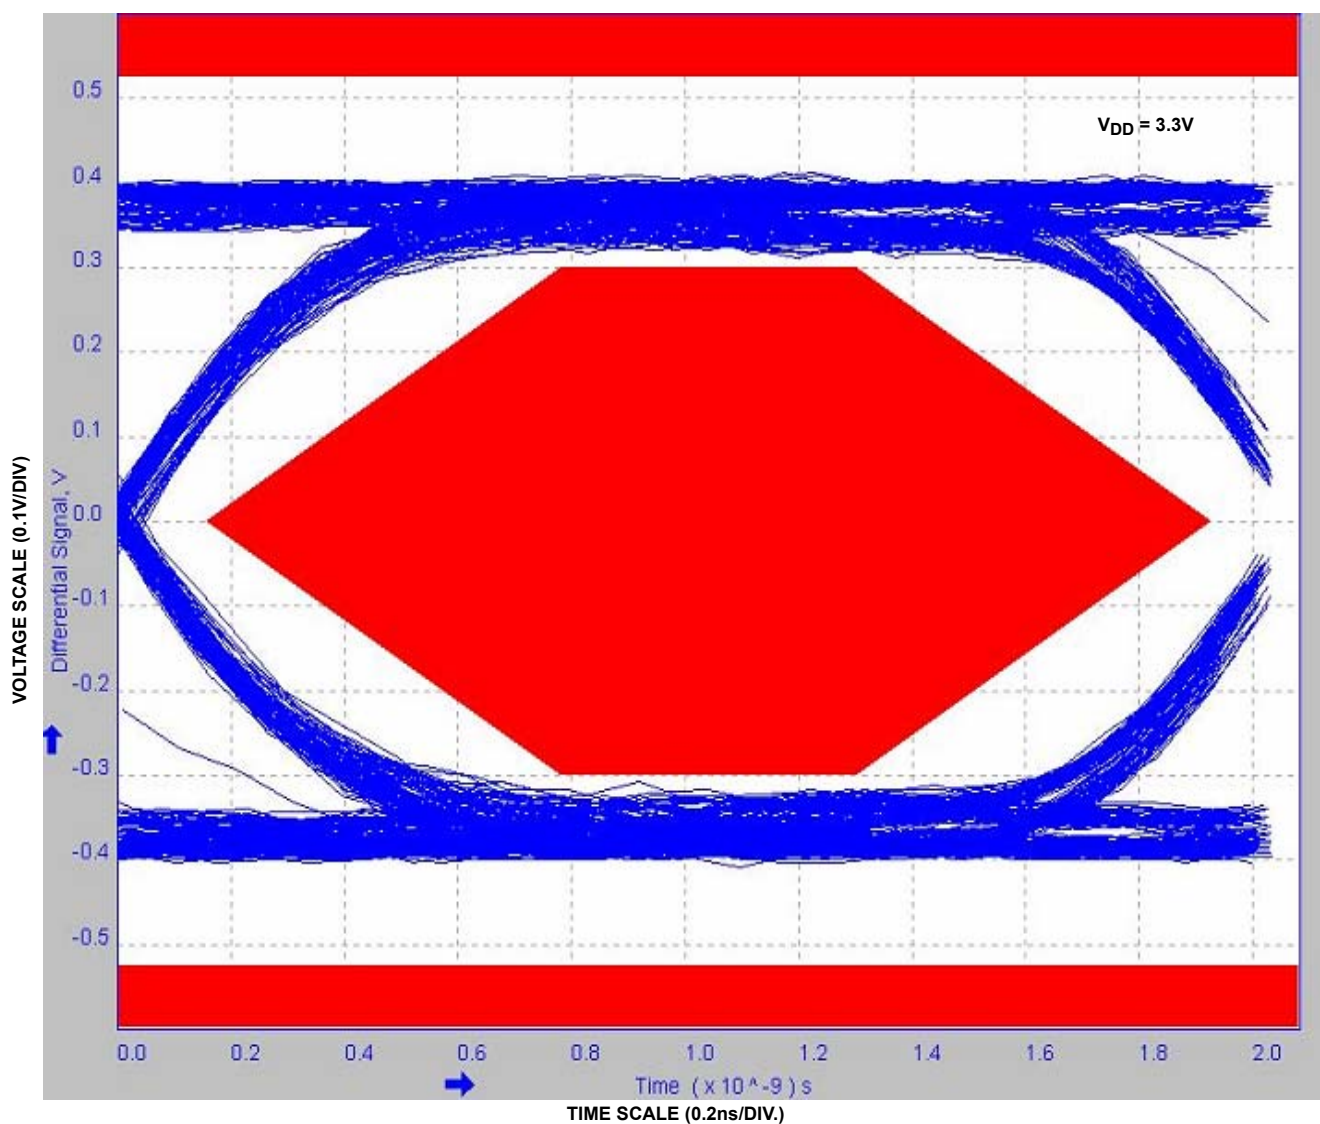

FIGURE 20. EYE PATTERN: 480Mbps WITH USB SWITCHES IN THE SIGNAL PATH
The two USB switches (D+, D-) are 5.5Ω bidirectional switches that were specifically designed to pass high-speed USB differential signals typically in the range of 0V to 400mV. The switches have low capacitance and high bandwidth to pass USB high-speed signals (480Mbps) with minimum edge and phase distortion to meet USB 2.0 signal quality specifications. See Figure 20 for high-speed eye pattern taken with switch in the signal path.
| 3/18/10 | FN6661.2 | <p>Converted to New Intersil Template</p> <p>Replaced note, page 3: "<math>\theta_{JA}</math> is measured with the component mounted on a high effective thermal conductivity test board in free air. See Tech Brief TB379 for details." with "direct attached note"</p> <p>Added "Boldface limits apply over the operating temperature range, -40°C to +85°C." to Electrical Specifications table.</p> <p>On page 1 in "Related Literature" section added App Note AN1407.</p> <p>On page 1 in "Features" section added "Low On Capacitance at 240MHz 4.2pF"</p> <p>On page 2 added thermal pad (PD) to TDFN pinout and added PD column to "Pin Descriptions" table.</p> <p>Page 4 in "Abs Max Rating" section added HBM rating for COM pins of 6kV and Latchup level.</p> <p>Thermal information Tjc for uTQFN changed from "61.9" to "105" and note for Tja was added to reference no direct attach, added Tjc to show the case temp location at top center.</p> <p>Page 4 in Electrical Spec Table - Removed Note Reference from Typical Column and Added to specific specs in Audio Switches and USB Switches as follows: On Resistance, rON Matching Between Channels and rON Flatness.</p> <p>Page 6 in electrical specifications table added "On Capacitance at 240MHz parameter.</p> <p>Page 15 Figure 20 Change from USB far end mask to USB near end mask.</p> <p>Page 18 in "Die Characteristics" section added TDFN thermal pad potential.</p> |